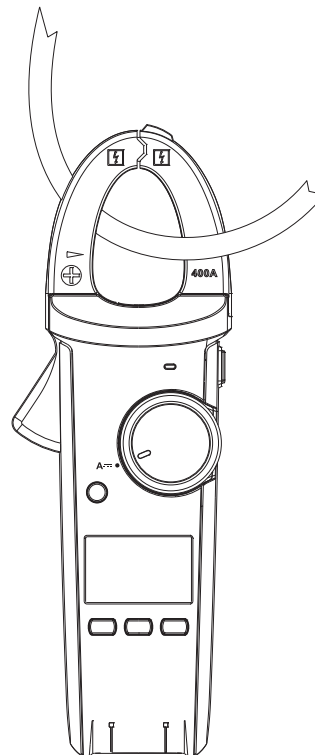

Figure 3
2. Measuring of DC Current (Only for UT213C)(See Figure 3)